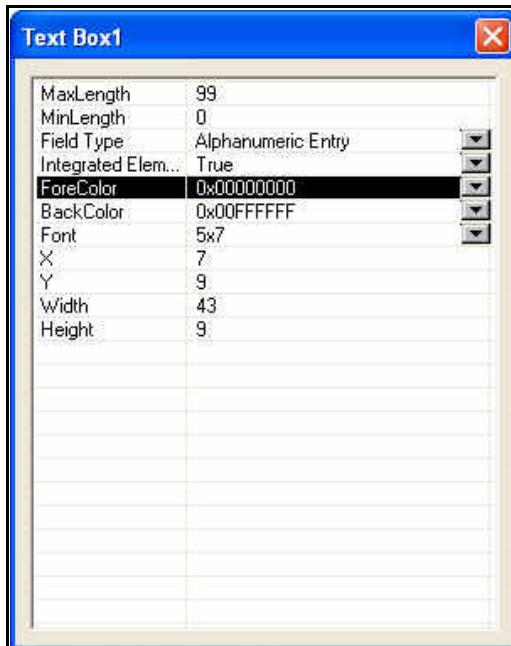

Figure 2-21 *Text Box Properties Box*
- Double click the Text Box to open the Text Box properties box to configure the look and action of the box (Figure 2-21).